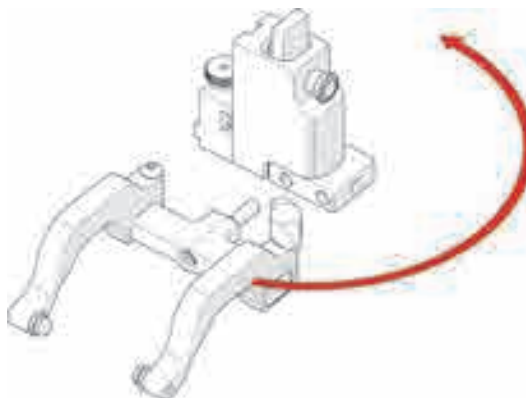

Figure 4-87 Orient to opposite side
2. Position the yoke and arms to the opposite side of the probe holder (see Figure 4-87 on page 156).